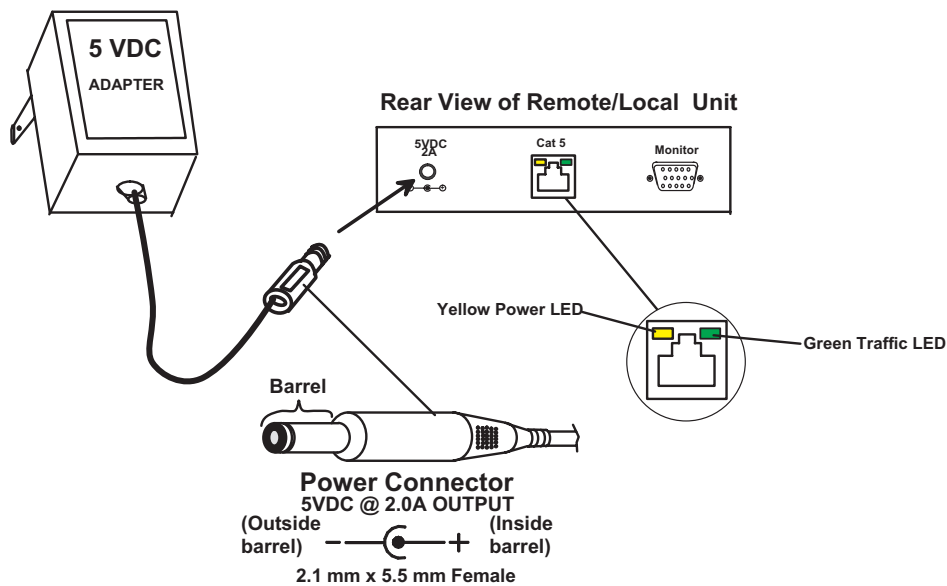

Figure 4- Connect the AC adapter to the Remote Unit
2. Connect each AC adapter power connector to the 5VDC ports on the Remote and Local Units. Make sure the power connectors go into each port all the way. Plug each AC adapter into a power outlet. The yellow LED on the RJ45 connector of both the Remote and Local Units should illuminate, indicating that a proper power connection has been made to them. (See Fig. 4.)
NOTE: The green LED on each RJ45 connector will illuminate anytime data traffic is passing between the Local and Remote Units, indicating proper CAT5 cable connection and communication. (See Fig. 4)